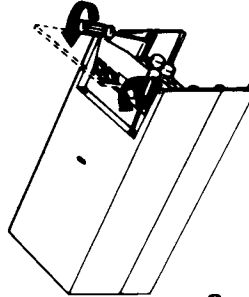

Fig. 10
**5.3.1** Remove 4 screws securing the lower part of the casing to the case frame. (Fig 10)